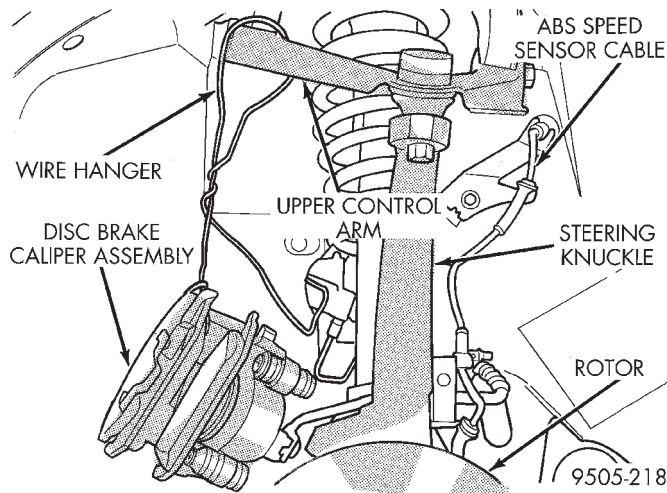

Fig. 46 Storing Caliper
(5) **Support caliper from upper control arm to prevent weight of caliper from being supported by brake flex hose. Supporting disc brake caliper from flex hose can damage the hose (Fig. 46).**